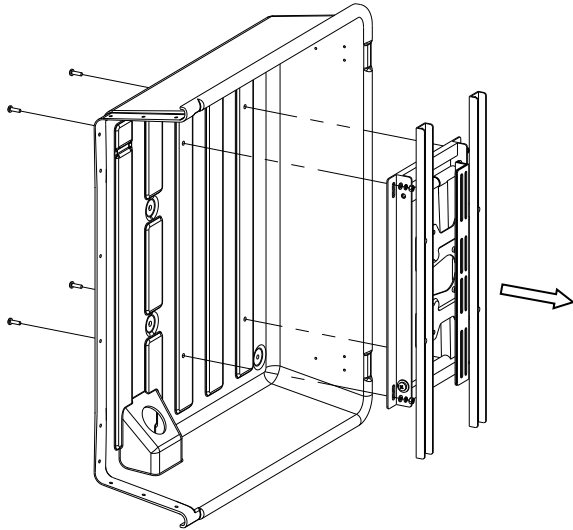

Figure 2
1. Remove the TV Bracket from the Storm Shell Back right part by removing the four securing bolts. Figure 2.